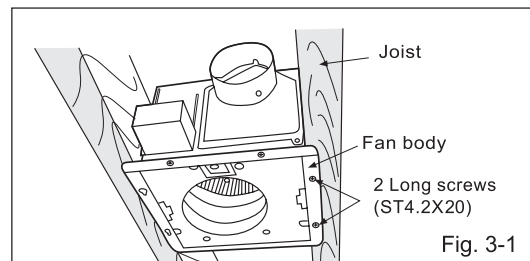
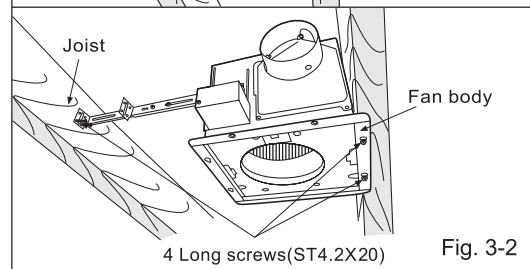

Fig. 3-1
Fig. 3-2
3. Install the suspension bracket and the flange of fan body to joists by using long screws (ST4.2X20) (If spacing A between joists is 12 inches, install the flange of fan body according to Fig. 3-1, others according to Fig. 3-2 to install the product)